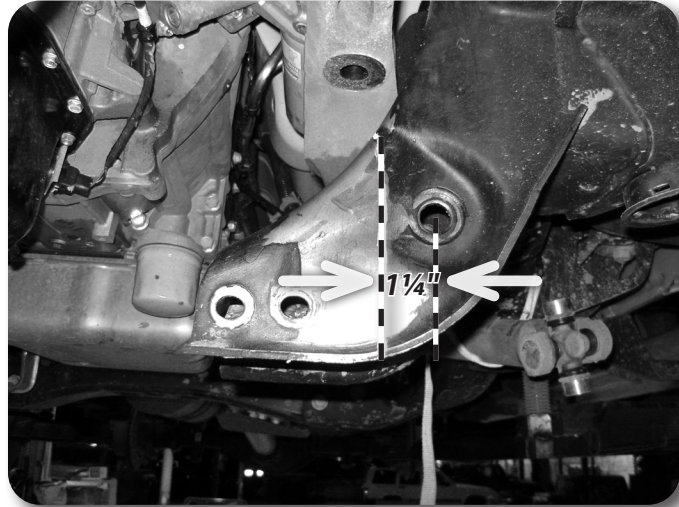

Figure 19A
31. The lower rear driver's side control arm pocket must be trimmed to provide clearance for the front differential. On the front face measure from the center of the control arm mounting hole inward 1-1/4" and mark. **Figure 19A** On the back face measure from the center of the control arm mounting hole inward 2-1/2" and mark. **Figure 19B** Make vertical cut lines at the marks on the front and back